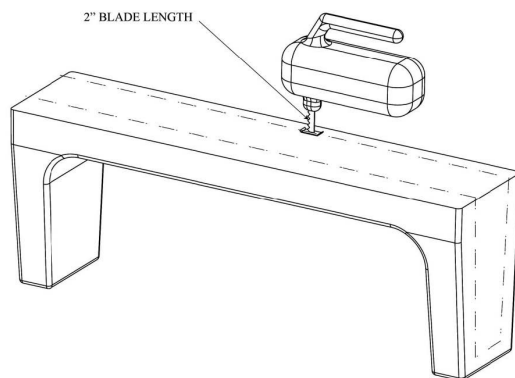

FIGURE 5
- Cut the CleanCut Ultra-Low to fit the cut-out tub opening using a jigsaw (Figure 5). Fasten Velcro-stripping on both sides of the jigsaw to prevent making any unwanted marks on the CleanCut Ultra-Low. It is important that a 2" (50mm) blade is used to cut out the CleanCut Ultra-Low so as to prevent accidentally cutting through the top of the CleanCut Ultra-Low. Snap off any excess length on the stock jigsaw blade beyond 2" (50mm).